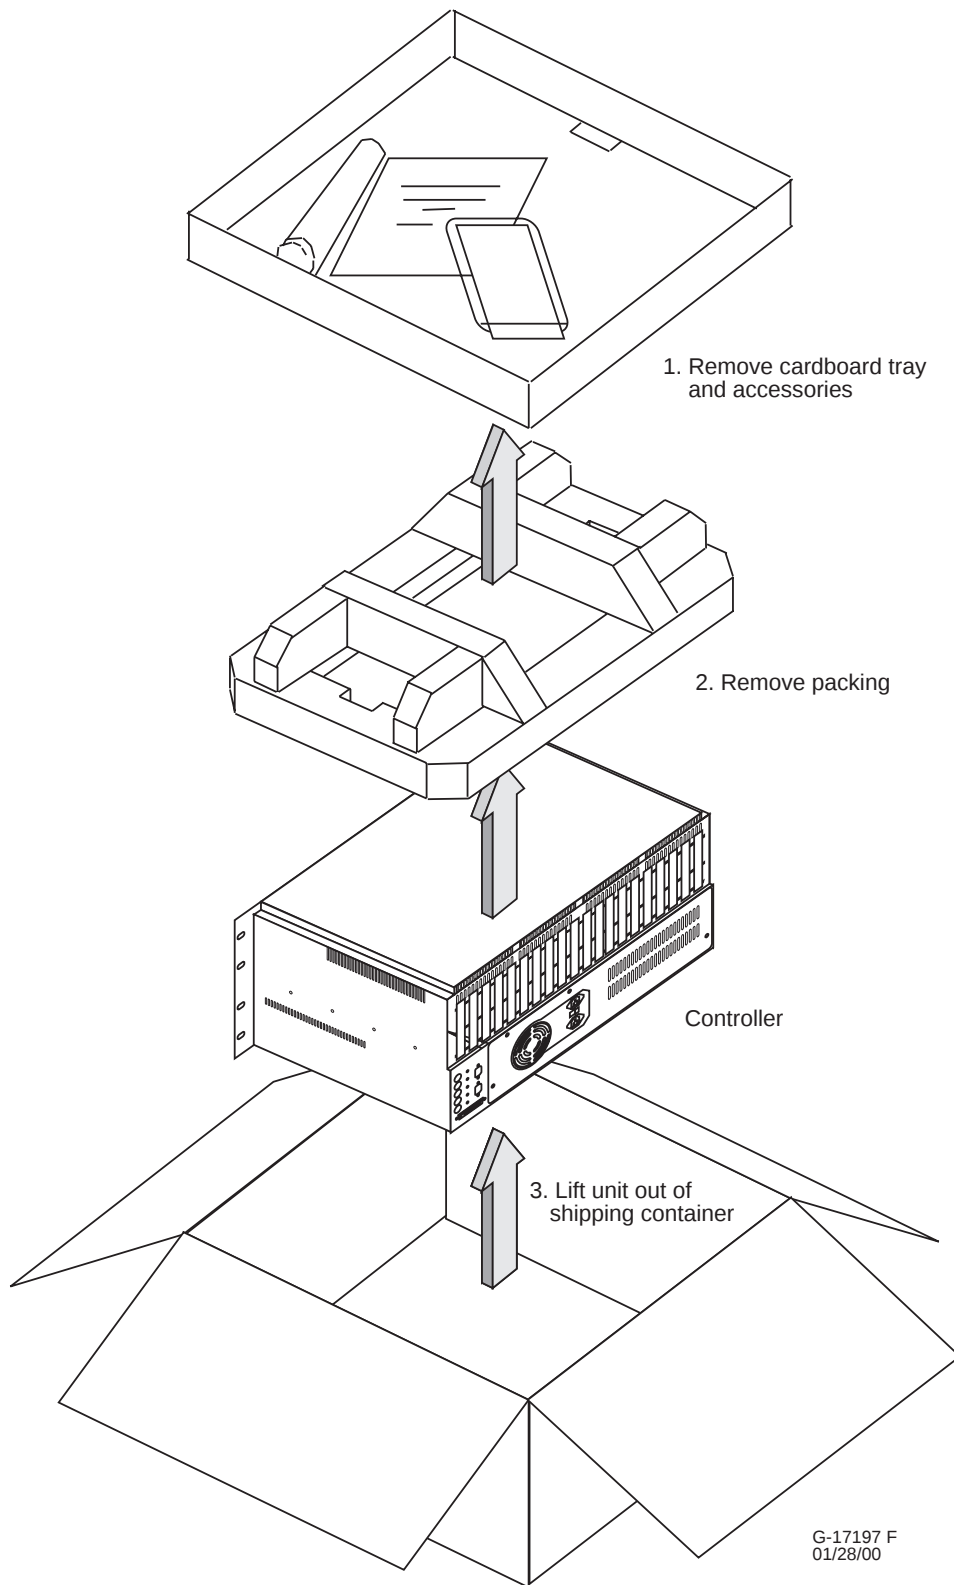

Figure 2-1 Unpacking the System Controller
1. Remove the System Controller and accessory packages from the packing container as shown in Figure 2-1.